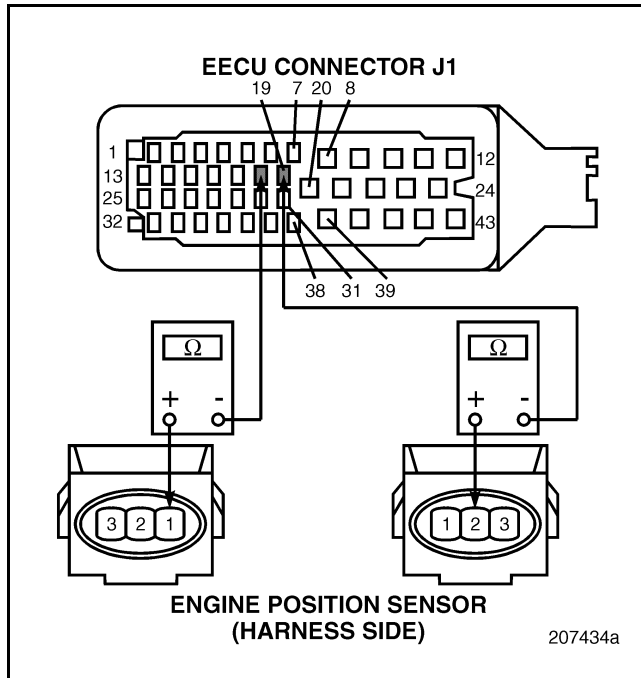

Figure 379
2. Disconnect the Engine Position (EP) Sensor connector.
4. Have a helper wiggle the harness while you check for continuity between Engine Position (EP) Sensor connector pin 1 and EECU connector J1 pin 18 and between Engine Position (EP) Sensor connector pin 2 and EECU connector J1 pin 19 (see Figure 379).